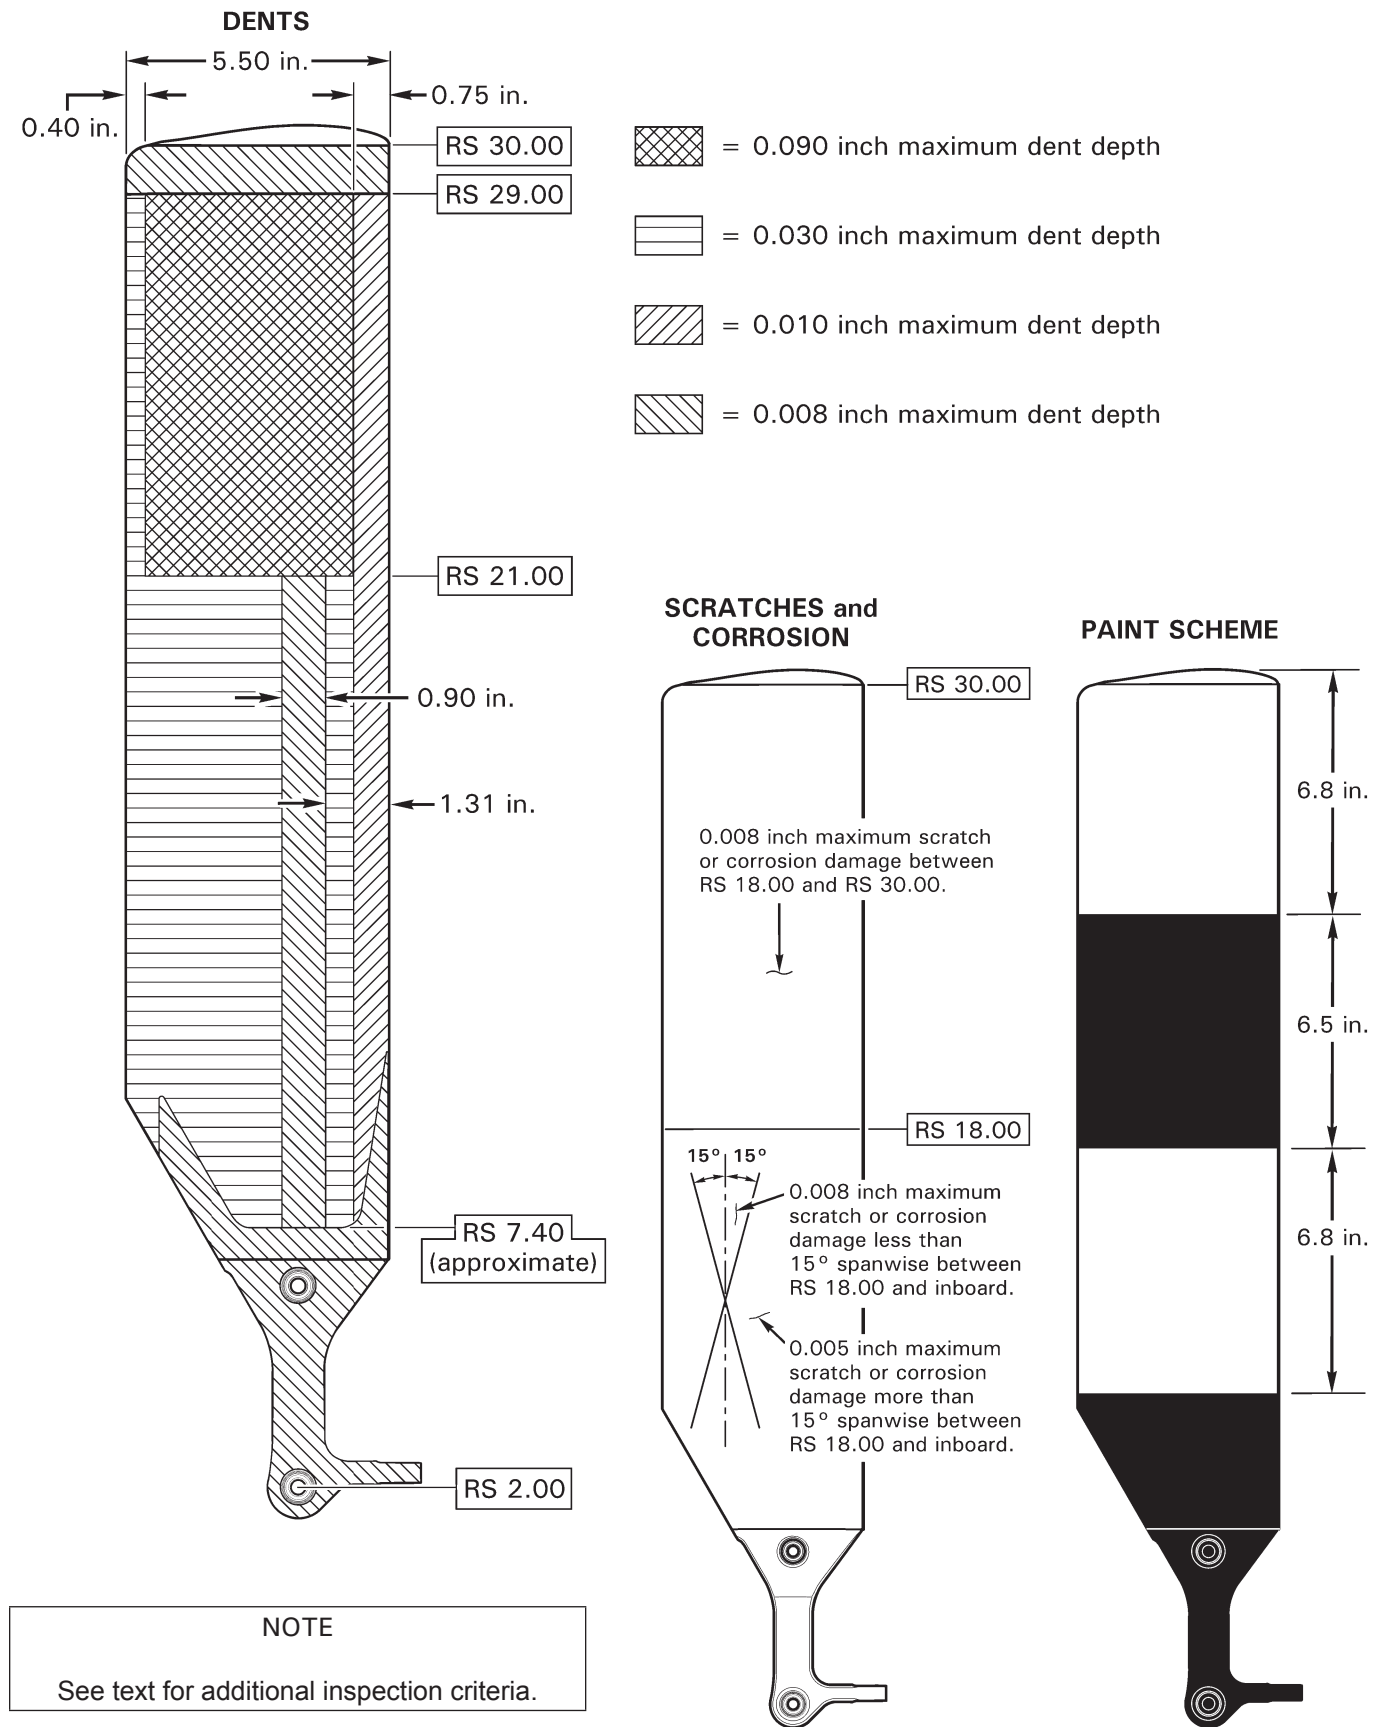

FIGURE 64-4 TAIL ROTOR BLADE INSPECTION CRITERIA
1. Refer to Figure 64-4. Verify damage does not exceed the following limits:
1. Refer to Figure 64-4. Smooth, round bottom dents with 0.060 inch minimum radius may be repaired when damage does not exceed the following limits:
Refer to Figure 64-4. See Section 62-52 (main rotor) for painting procedures.